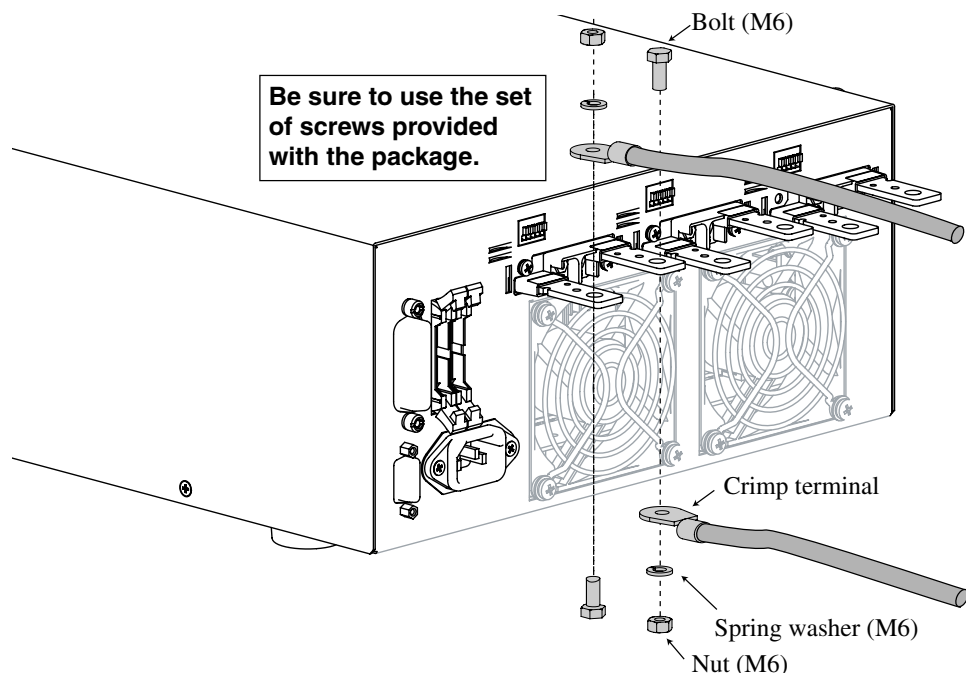

Fig. 2-12 Connection to the load input terminal on the rear panel
3. Connect the load wire to the load input terminal on the rear panel (Fig. 2-12).